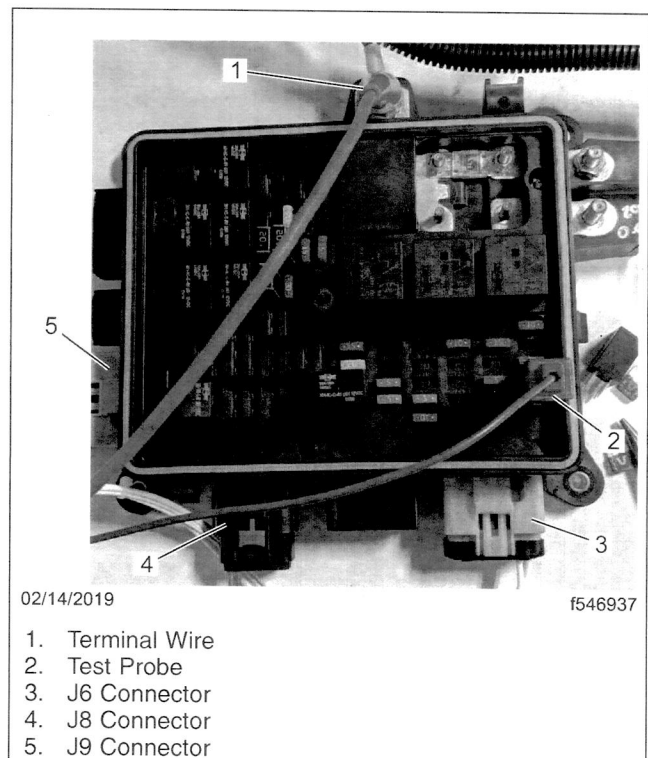

Fig. 3, Tester Connected to the PDM
7. Connect the tester to the PDM. This includes three J-connectors and the test probe, along with the power and ground terminals. See **Fig. 3**. Not shown in **Fig. 3** is the ground terminal connected to the negative terminal on the battery.